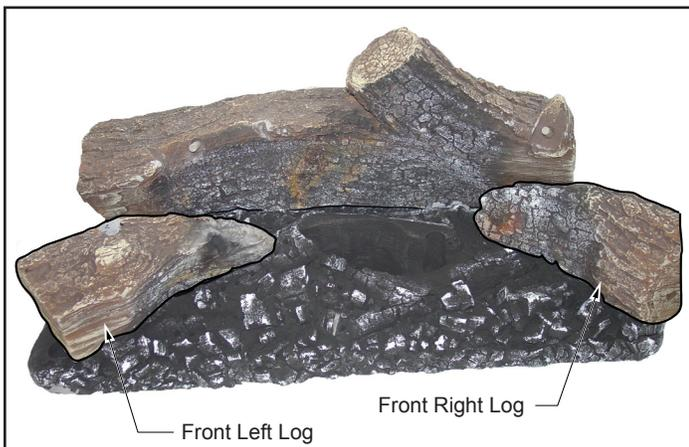
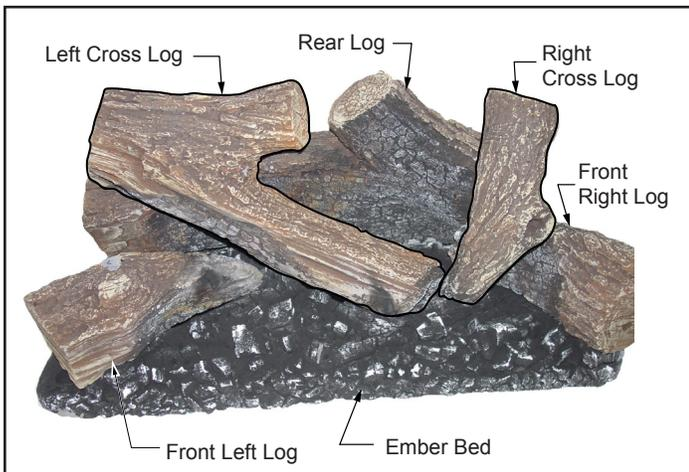

**Figure 3.21** - Rear Log
**Figure 3.22** - Ribs for Logs
2. Install the rear log by placing it on the ember bed toward the back of the firebox, Figure 3.21. The log should touch the back wall of the firebox. When the log is in place, the two (2) notches on the bottom of the log rest on the two (2) ribs on the back side of the ember bed, Figure 3.22.
3. Install the front left and right logs (Figure 3.23) by placing them on the ribs shown in Figure 3.22. Make sure the logs line up with the flat spots on the ember bed intended for location purposes, Figure 3.23.